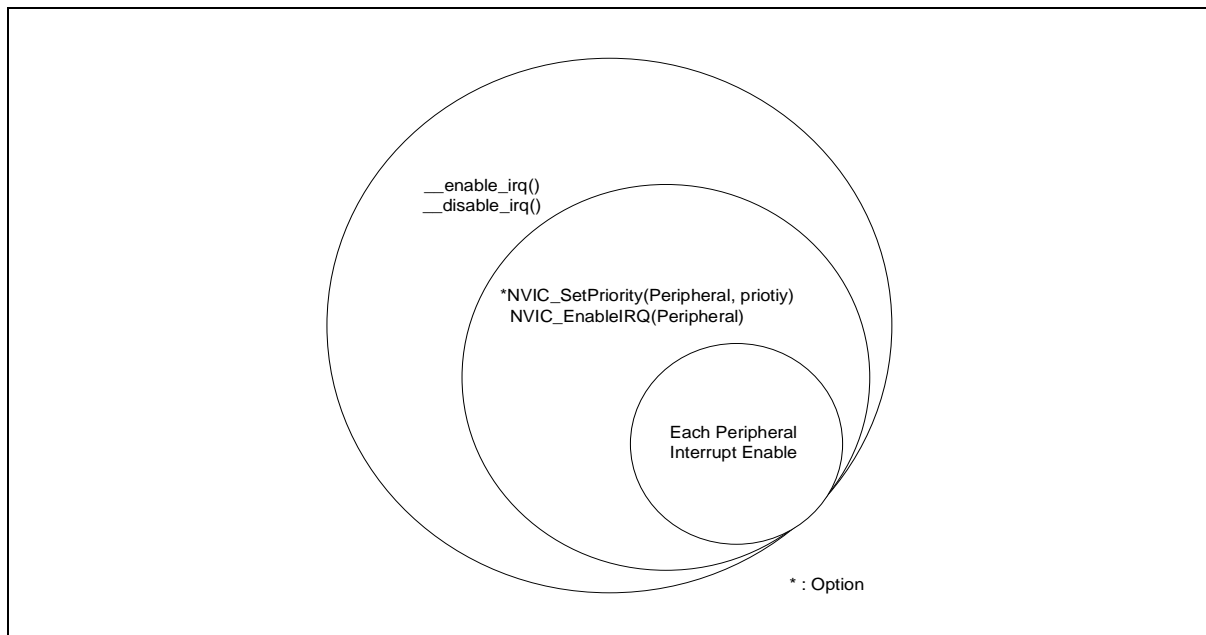

Figure 5. Interrupt Block Diagram
2. Figure 5 is a caution when using Peripheral Interrupts. Interrupt don't work if only peripheral interrupts are enabled. Enable the function in core to enable interrupt.